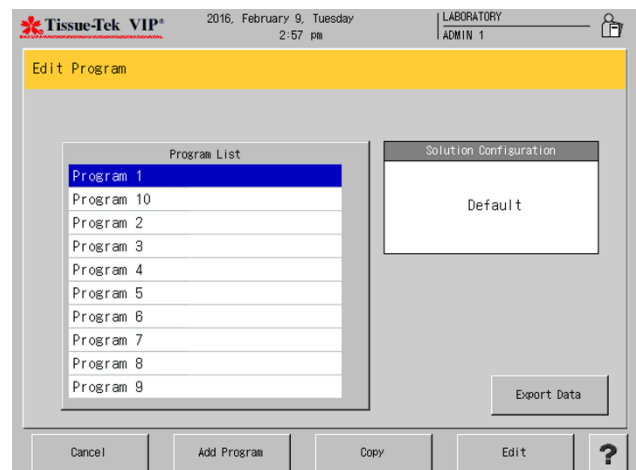

Figure 3-YY
- The Edit Program screen displays (Figure 3-YY).